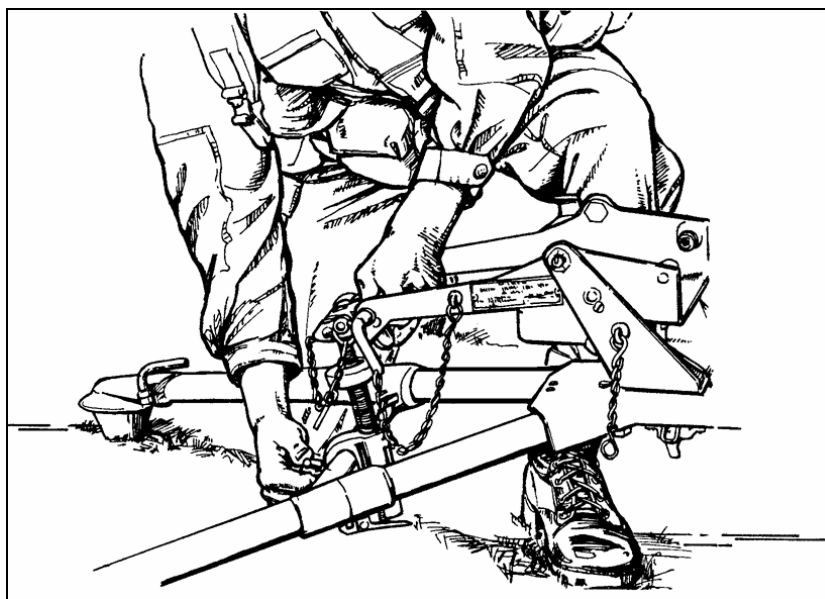

Figure H-4. Securing the T&E mechanism.
- (4) Secures the T&E mechanism to the tripod, by locking the traversing slide lock lever (Figure H-4).
- (5) Helps the gunner mount and load the MK 19.